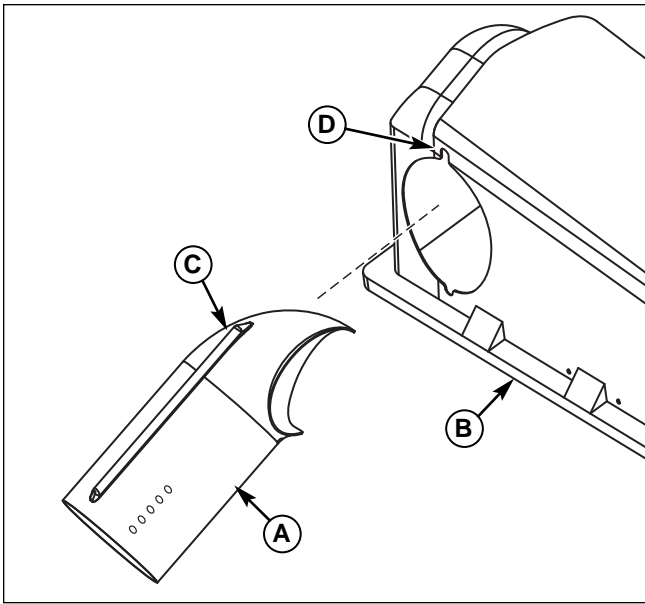

Figure 15. Install Upper Tube to Cover
1. Slide the upper tube (E, Figure 15) into cover (B) aligning ridge (C) with cutout (D) as shown.